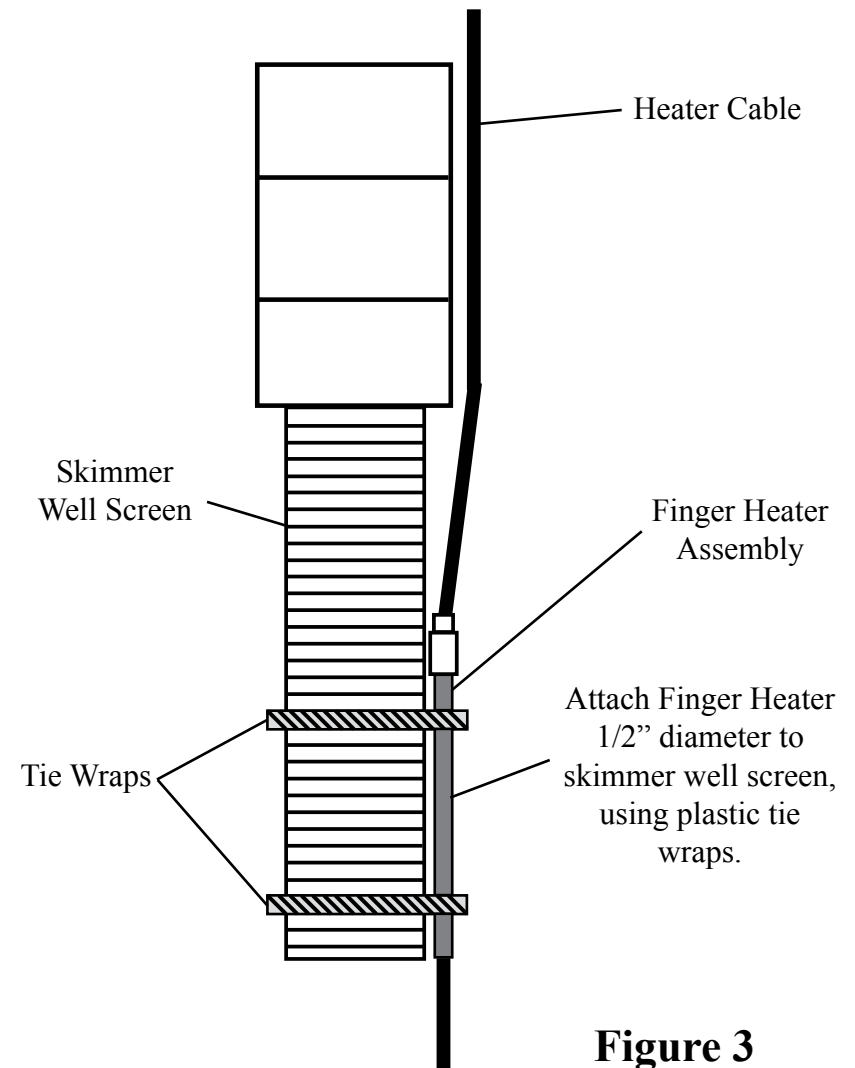

Figure 3
STEP 10. Install the 3/8" OD power cable from finger heater through the inside of the well cap, through the fitting labelled "H". Slide about 5 feet of power cable through the well cap. Attach the finger heater assembly to the skimmer well screen (Figure 3).